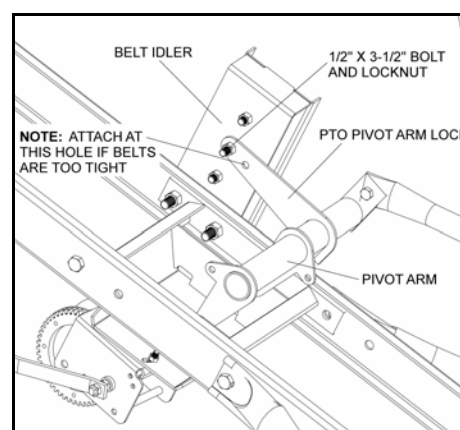

Figure 3.49
17. Install PTO pivot arm lock by replacing bolt on belt idler with a 1/2" x 3-1/2" bolt and attaching PTO pivot arm lock through the hole closest to the end (see Figure 3.49).
Note: The belt adjustment may be unable to provide enough slack in the belts to install them. If this is the case, adjust the PTO pivot arm lock by securing it through the inner hole (see Figure 3.49).